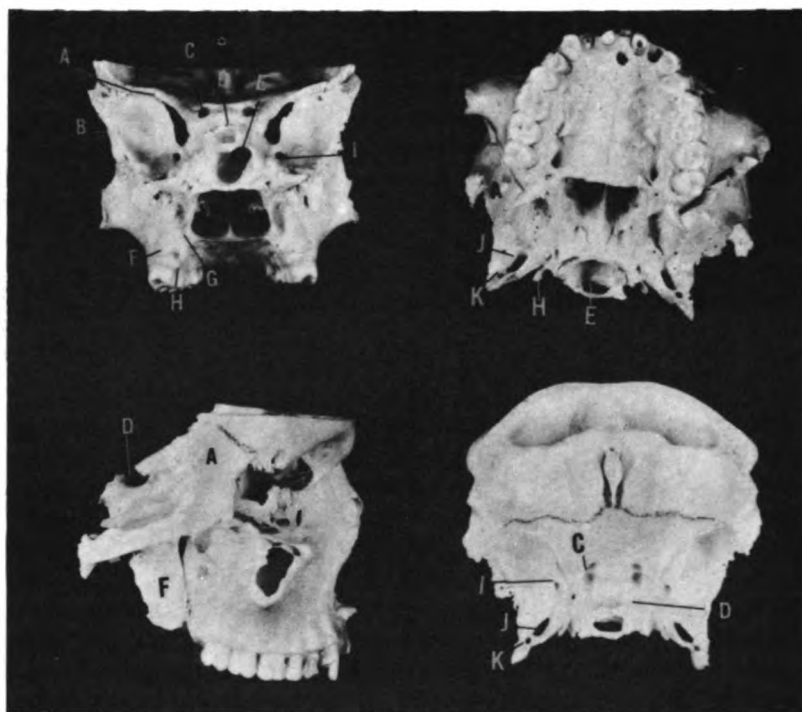

Figure 4-29 The Sphenoid Bone - PA, Inferior, Lateral and Superior Views
The Sphenoid Bone. The sphenoid bone of the cranium is a bat-shaped bone with two wings and a body. It is located anteriorly to the temporal bone and the basilar part of the occipital bone. It has a number of structures that you should know about. These structures are the GREATER (A) AND LESSER (B) WINGS, OPTIC FORAMEN (C), SELLA TURCICA (D), THE SPHENOID SINUS (E); LATERAL (F) AND MEDIAL (G) PTERYGOID PLATES AND THE HAMULUS (H). BESIDES THE OPTIC FORAMEN THERE ARE THREE OTHER FORAMINA ON THE SPHENOID BONE. These are the FORAMEN ROTUNDUM (I), FORAMEN OVALE (J) AND THE FORAMEN SPINOSUM (K). The sphenoid also forms, at the lateral posterior side of the body, a part of the FORAMEN LACERUM. All these foramina are used for passage of blood vessels and nerves (Figure 4-29).